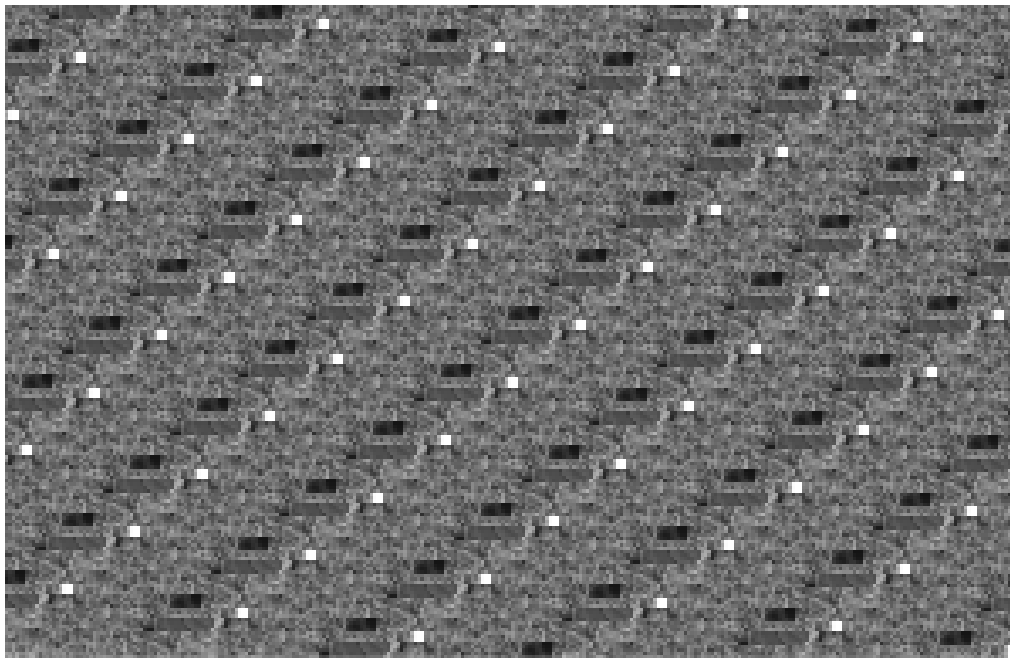

Figure 18
Step 19.) Roll the canopy from the top towards the diaper. (See Figure 18.)